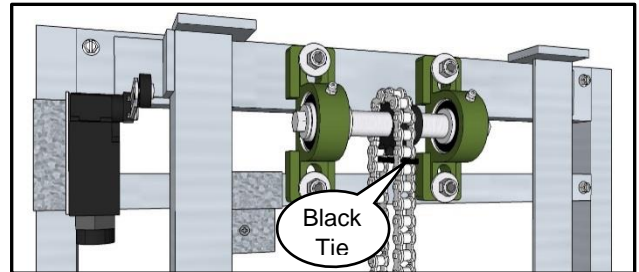

Figure 6
NOTE: Do not cut the black plastic tie! (see Figure 6)
- 7** Cut black plastic tie off. (see Figure 6)